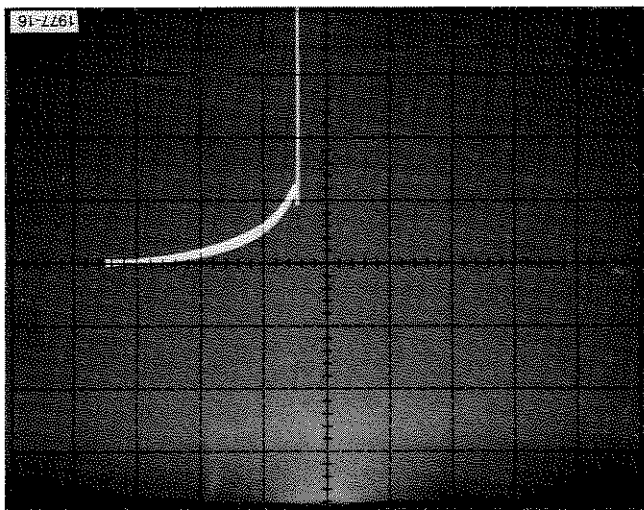

Fig. B-5. Display of  $\pm$  power supply rejection ratio ( $\pm$ psrr).
d. Calculate  $\pm$ PSRR using the same methods as used in Steps 2 and 3 for calculating  $\pm$ PSRR and  $\pm$ PSRR. See Fig. B-5.